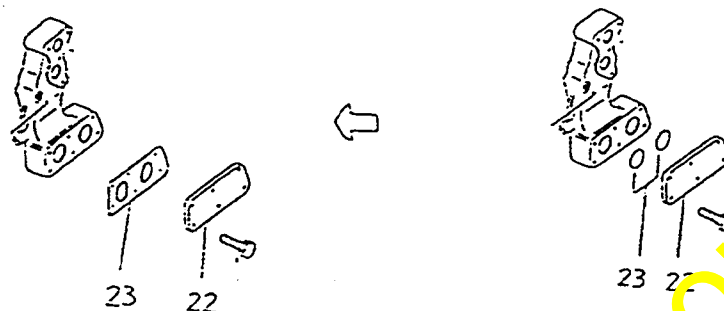

Fig. 32
- ① Replacement of oil connector cover seal with gasket (Fig. 32)